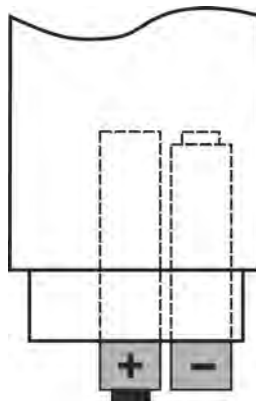

Fig. 8: Battery replacement
3. Insert new batteries of the same type (see § 7.1.2) respecting polarity signs (see Fig. 8).